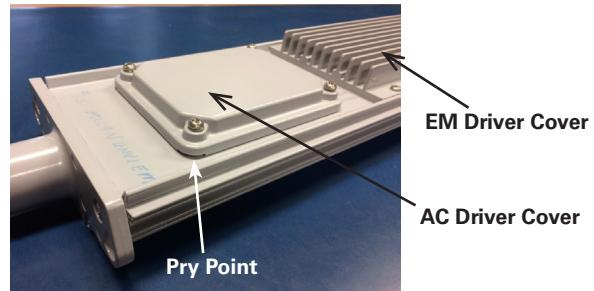
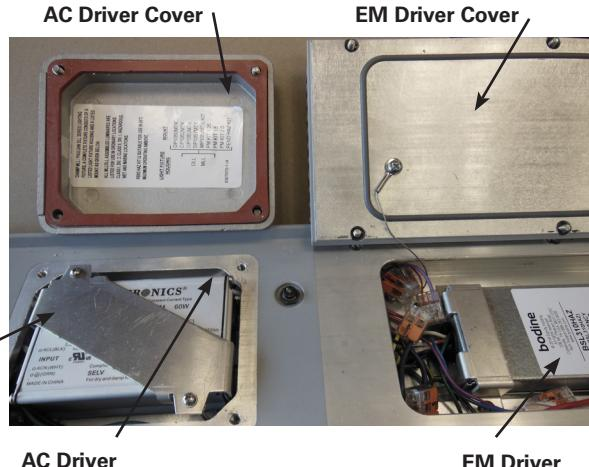

Figure 18
Figure 19
2. To aide in driver cover removal, a pry point is located on one corner of the driver (see Figure 18).
6. Disconnect the input and output leads of the old driver(s) (see Figure 19).
7. Remove the two (2) screws along with the driver bracket which secures the driver in place. Unscrew the ground screw with a hex head bit, remove the terminal ring and then remove the driver.
10. Peel off one side of two (2) thermal pads and stick them side by side to the bottom of the new driver supplied by Eaton's Crouse-Hinds. In a similar fashion, stick the third thermal pad to the inner side of bracket as shown below. After peeling off other side of thermal pads, assemble the driver with the bracket, with the notch facing towards the LED board side and assemble the housing using the aligning screws provided in the kit (see Figure 18). Make sure old thermal pads, if still stuck to housing or bracket, are removed before assembly.
13. Reinstall the new driver into the luminaire, ensuring that output wires to LED boards are tucked neatly into the housing and the input and dimming wire leads are placed in the wiring channel underneath the driver and routed to the input wiring area (see Figure 19).
14. Ensure that the driver is in direct contact with the luminaire housing and no wires are being pinched between the driver and the housing. Secure with two (2) screws along with the driver bracket and tighten to 5 in.-lb. (0.6 N-m).
4. Loosen the ten (10) EM driver cover screws and open the EM driver cover and allow the cover to hang by the supports (see Figure 19).
6. Remove the two (2) clamps (two screws per clamp) that secure the EM driver; remove the old EM driver.
8. Reinstall the new EM driver into the luminaire with the leads facing the AC driver, ensuring the EM driver is in direct contact with the luminaire housing and no wires are being pinched between the EM driver and the housing. Secure with two (2) clamps (2 screws per clamp) and tighten to 20 in.-lb. (2.3 N-m).